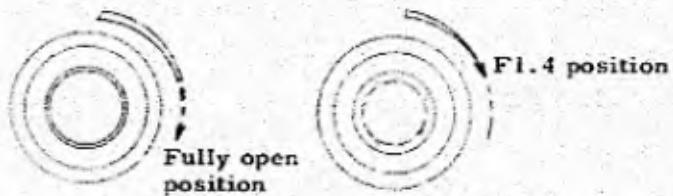

Fig. 80
n.b. 1. Cds Aperture should be closed down, slightly at F1.4 position. Fig. 80.